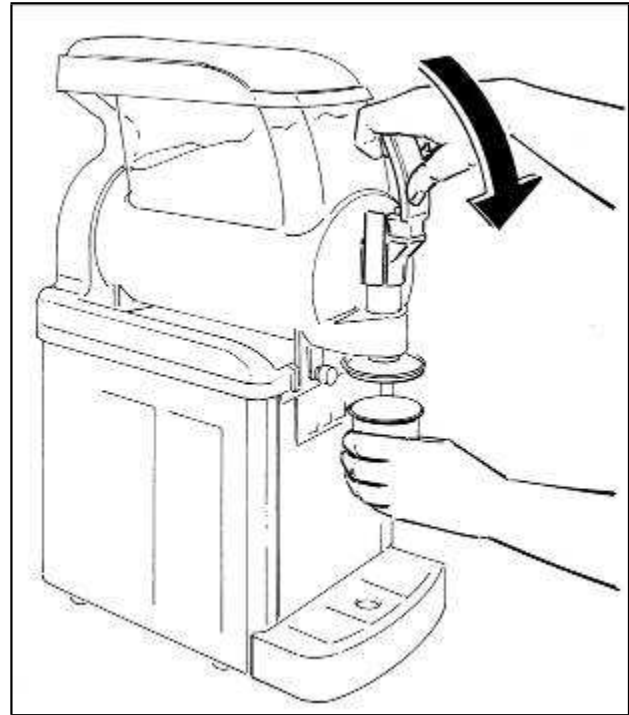

Fig. 11
- Once the desired product consistency is reached, to dispense product position a cup under the tap, push the dispensing button and lower the lever as shown in Figure 11.